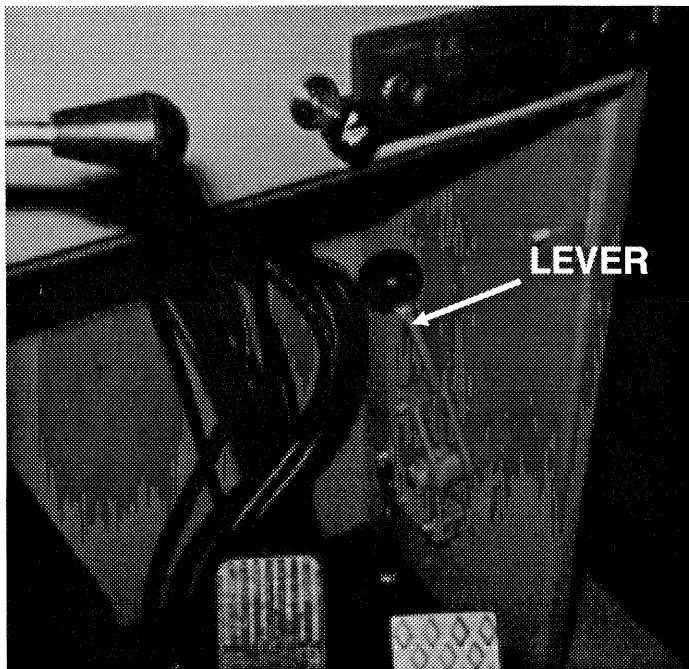

Fig. 3-13 Rear Axle Disconnect
37. Rear Axle Disconnect See Fig. 3-13